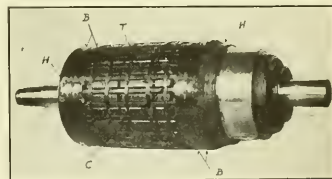

FIG. 11. THE ARMATURE.
and over the coils so that they will not fly out of the slots due to the centrifugal force of rotation. Fig. 11 shows an armature complete and ready to be placed in the motor housing. To protect the coils and to keep dust from the windings asbestos cloth hoods (H) are placed over the coils on the commutator and pinion ends and are held in place by the steel wire bands (B), which also hold the coils in place outside of the core slots. These bands are put in under several pounds pressure. Narrow bands (C) are placed at intervals along the core and are known as "core bands." At intervals of every few inches strips of tin (T) are placed under the steel wires with the ends bent over to keep the wires together. To maintain the tension and to add mechanical strength the band is soldered its whole length.